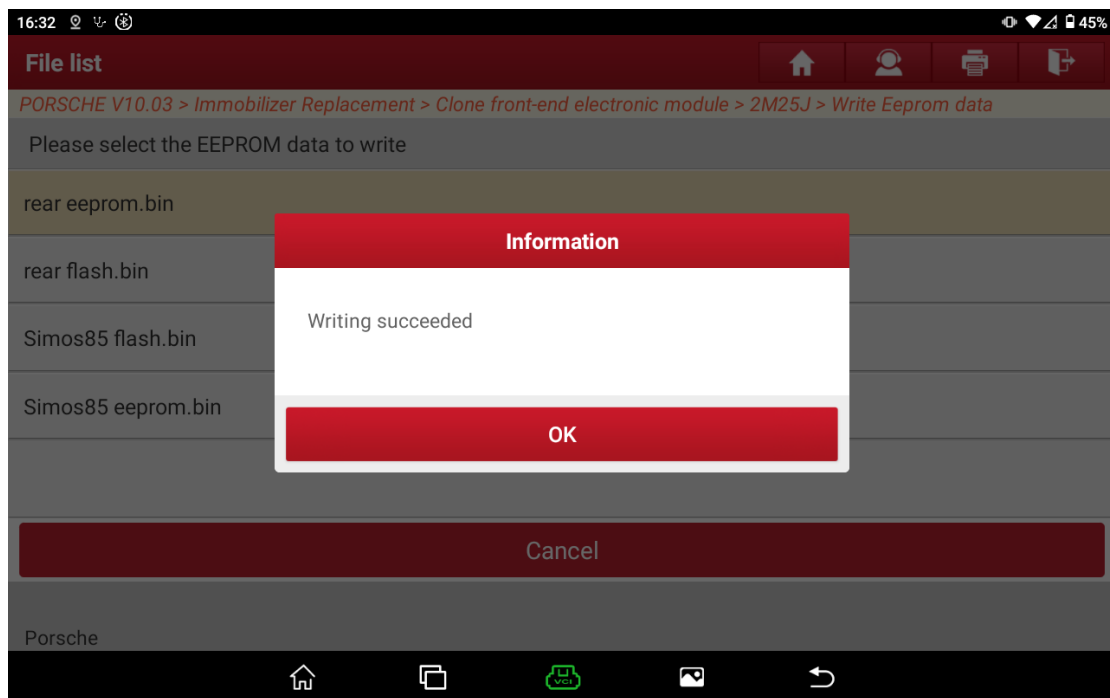

Figure 13
12. After about 30 seconds, the writing is successful, as shown in Figure 13.